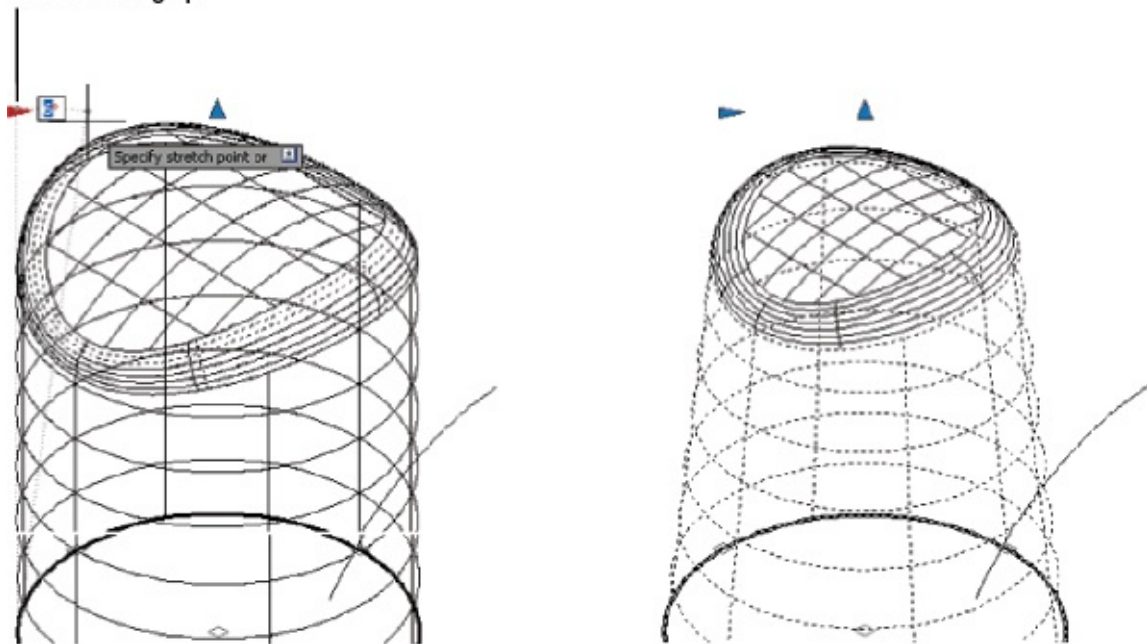

FIGURE 23.52 Changing the taper of the cylinder
6. At the top of the cylinder, click the right-pointing arrowhead grip and drag it to the right. As you do this, you see the dynamic display showing you an angle (see the image on the left in Figure 23.52).
7. Position the arrowhead grip so that the angle shows 6, and then click to fix the grip in place. The cylinder is now tapered, and the top surface conforms to the new shape, as shown in the image on the right in Figure 23.52.